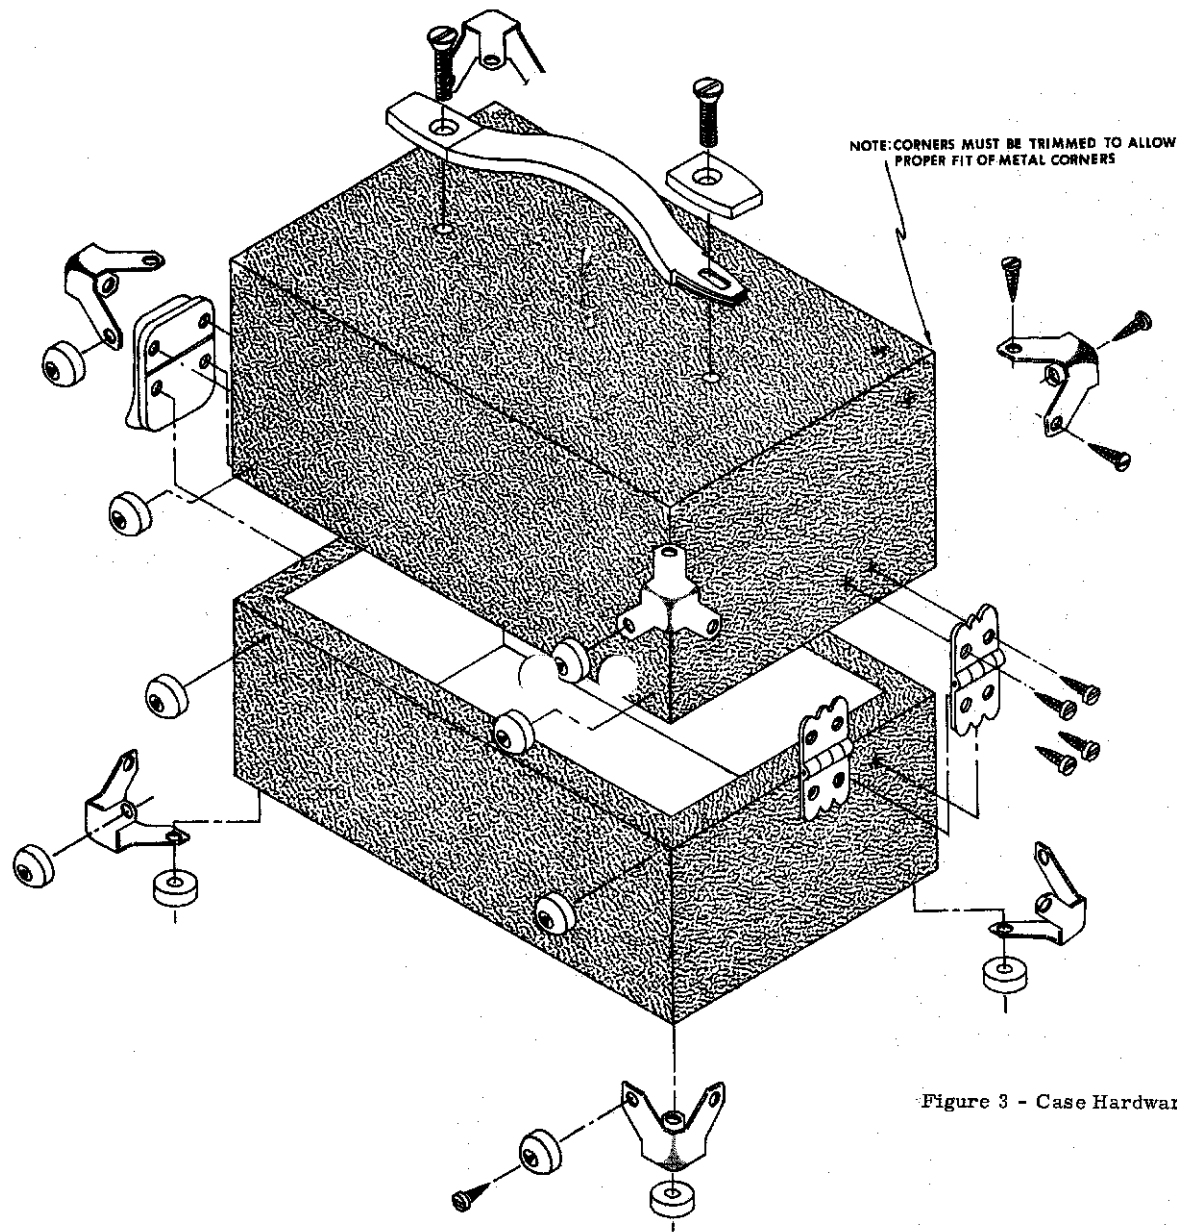

Figure 3 - Case Hardware Placement
During case assembly it may prove helpful to use a 1/16" drill or ice pick to produce pilot holes for any screws which go into the wooden case. Refer to figure 3 for proper case hardware placement.
- () Prepare the wood case for mounting the metal corners by trimming the FOUR REAR corners with a razor blade or sharp knife. (See figure 3.) This will allow the metal corners to mount flush against the case.
- () Using two #4 X 3/8" screws, mount the remaining two rubber feet near the front edge of the case bottom. The rubber feet should be located approximately 1" from each edge. (See figure 3.)
- () Close the wing cabinets and arbitrarily designate one of the units as the top half and the other as the bottom half. On the wing cabinet which is designated as the bottom, mount four rubber feet using the #4 X 3/8" screws which have already been used to mount the metal corners to the case back. (See figure 3.)